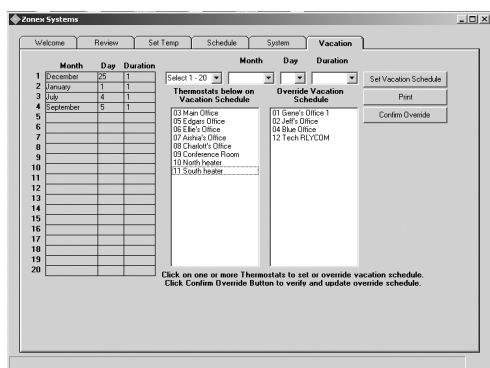

Fig. 27
1. In the **Thermostats below on Vacation Schedule** column, click on each thermostat address that you wish to override. Notice that, when you click on an address, it moves to the **Override Vacation Schedule** column (see Fig. 27).